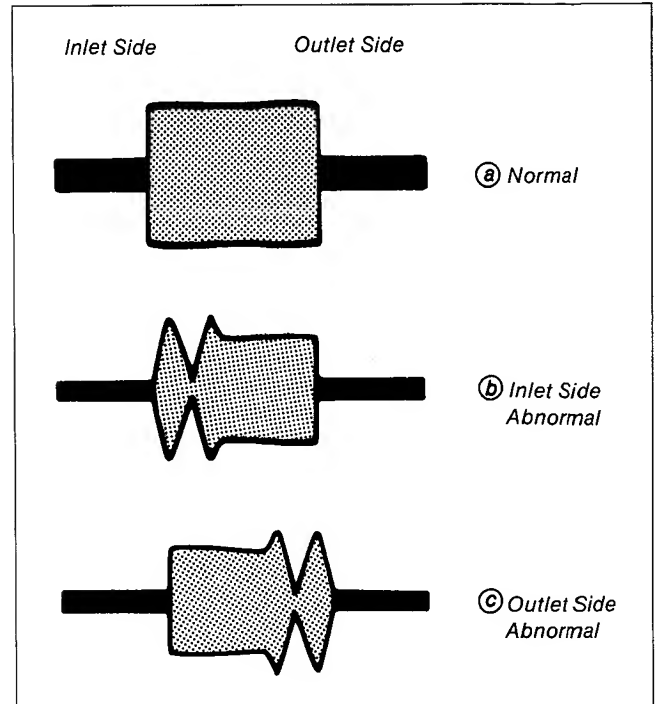

Fig. 8-54.
- 6) Confirm that the RF waveform of the oscilloscope is flat at both inlet and outlet sides. (Refer to Fig. 8-54 (a).) When it is not flat, adjust as follows:
- When the RF waveform at the inlet/outlet side is not flat; (Refer to Fig. 8-54 (b) or (c).) After making tracking coarse adjustment in 8-4-3, make tracking fine adjustment in 8-4-4.